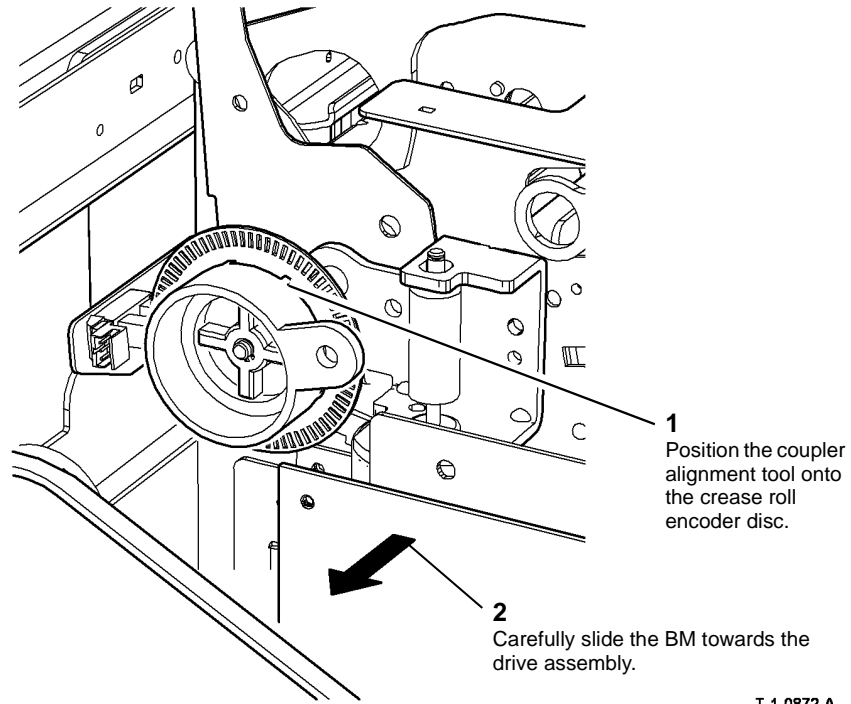

Figure 3 Centralise the alignment tool
3. Centralise the coupler alignment tool onto the crease roll encoder disc, PL 11.166 Item 13 and Figure 3.
4. Prepare to centralise the drive coupler, refer to Figure 1, with the HVF BM crease roll encoder disc, Figure 3.